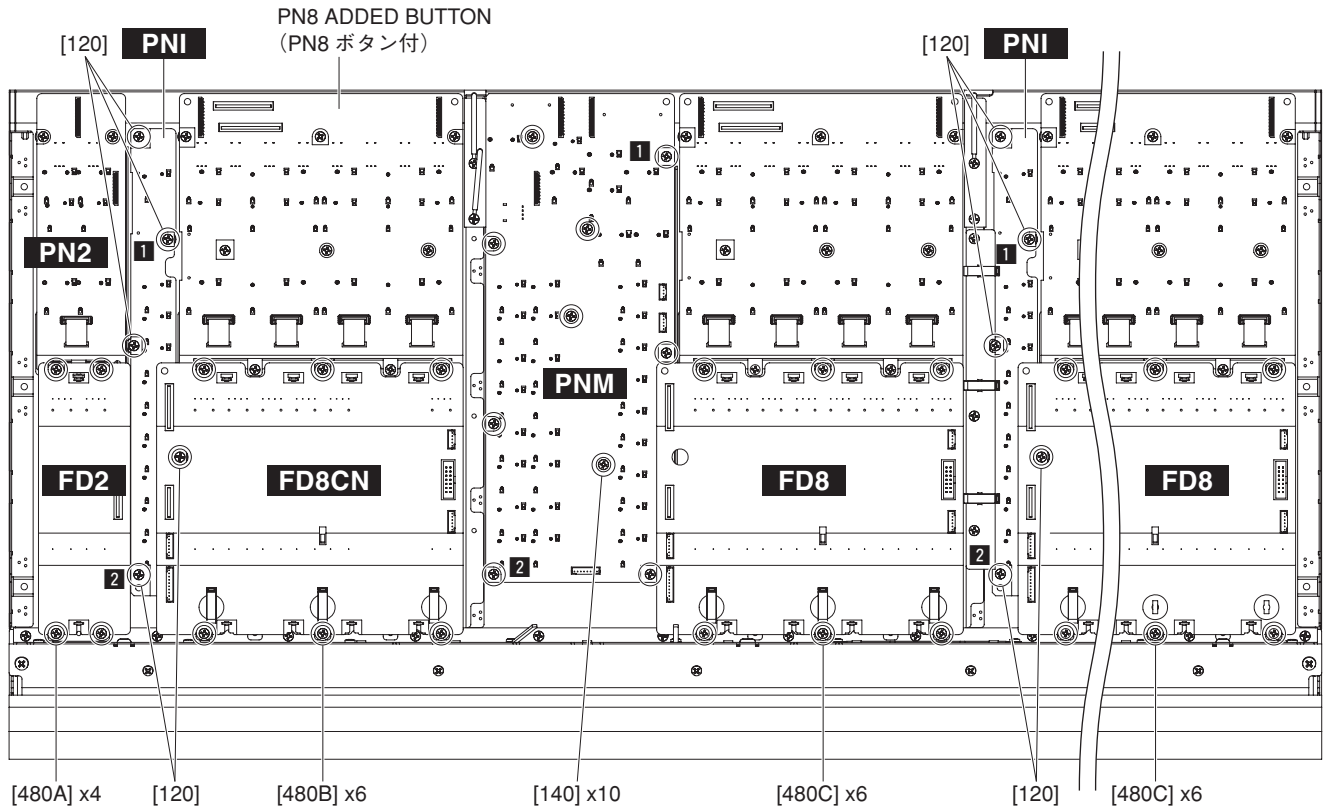

Fig. 9 (図9)
- B-7-3. Remove the four (4) screws marked [480A]. The FD2 circuit board can then be removed. (Fig. 9)
(図9)
- B-12-3. Remove the six (6) screws marked [480B]. The FD8CN circuit board can then be removed. (Fig. 9)
- B-13-3. Remove the six (6) screws marked [480C]. The FD8 circuit board can then be removed. (Fig. 9)
- B-14-2. Remove the five (5) screws marked [120]. The PNI circuit board can then be removed. (Fig. 9)
* **When installing the PNI circuit board, tighten the screws 1 and 2 shown in fig. 9 in numerical order and then tighten the other screws.**
- B-12-3. [480B] のネジ 6 本を外して、FD8CN シートを外します。(図 9)
- B-13-3. [480C] のネジ 6 本を外して、FD8 シートを外します。(図 9)
- B-14-2. [120] のネジ 5 本を外して、PNI シートを外します。(図 9)
- ※ **PNI シートを取り付ける際は、図 9 に示す 1、2 の順にネジを締めてから他のネジを締めてください。**
- B-15-3. Remove the ten (10) screws marked [140]. The PNM circuit board can then be removed. (Fig. 9)
- * **When installing the PNM circuit board, tighten the screws 1 and 2 shown in fig. 9 in numerical order and then tighten the other screws.**